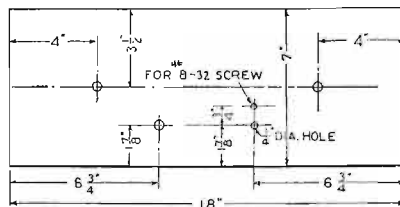

FIG. 4
- 1 Panel, 7 x 18 x $\frac{3}{8}$ inches. (See Fig. 4.)
For those whose facilities do not permit them to make the more elaborate device, the simpler form may be found to give good results. To make this, two circular discs of aluminum, approximately 3½ inches in diameter, are required. These are drilled in such a manner that tie rods can be used to hold the crystal between the discs. When the crystal is mounted in place, connections have been made to the poles, and a connection from the girdle has been brought out through an insulated bushing fastened in one of the end plates, a diaphragm is secured in place about the edges of the two discs. Then the diaphragm is twisted so that it is stretched in diagonal folds, and it is securely fastened by means of rings. Small adjustable embroidery rings may be used for this purpose. It will be found that varnishing the diaphragm will improve the tone and pitch. Fig. 4 shows a device of this type in its completed form.